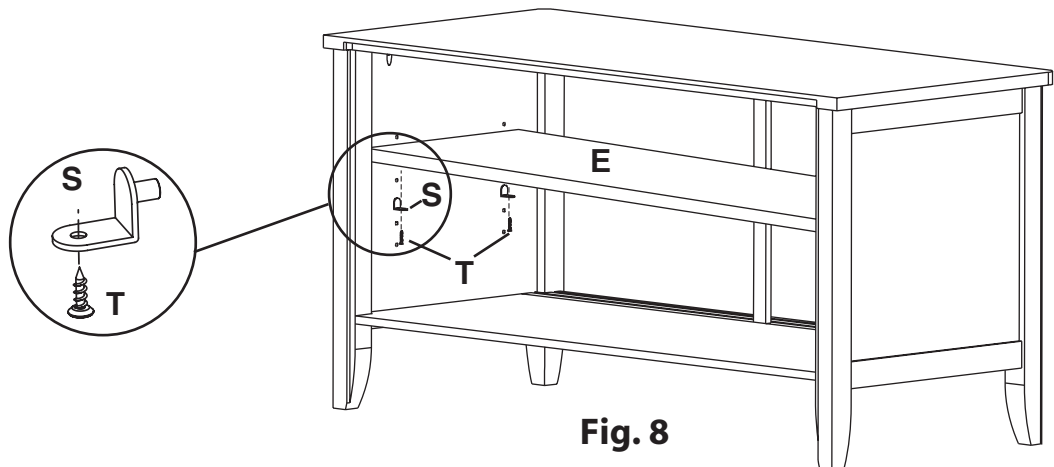

Fig. 8
- Turn the unit right side up. Determine where you want to place the Adjustable Shelf (E). Insert Shelf Brackets (S) into the bracket holes on both sides. Secure the shelf with four #6 x 1/2" Undercut Screws (T). See Figures 8 and 8a.